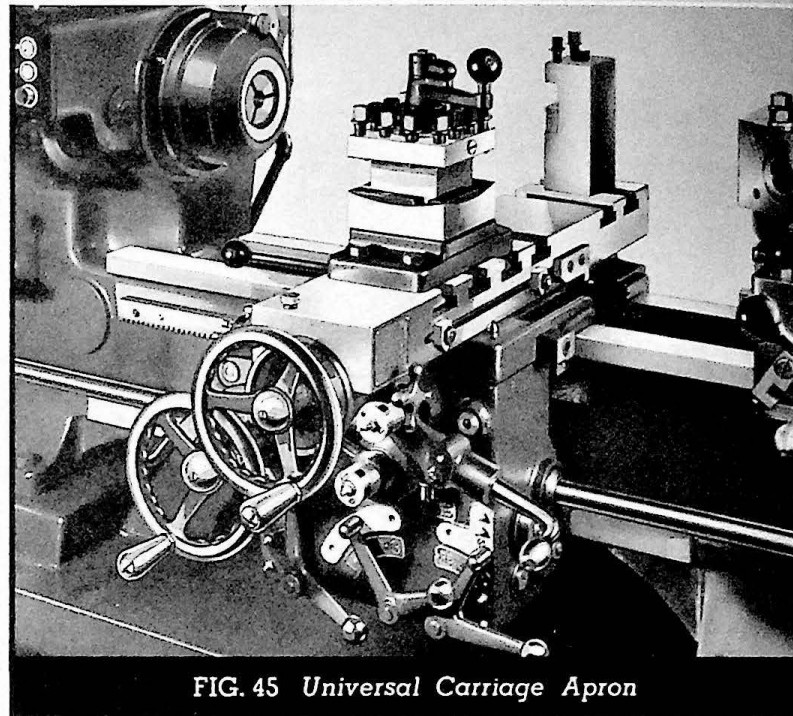

FIG. 45 Universal Carriage Apron
The action of the carriage apron is similar in principle to the hexagon turret apron, except that a second clutch (6), Figs. 45 and 46, is incorporated for cross feeding, clutch (4) being for longitudinal travel.
4. Cross feed clutch shaft (6) Figs. 45 and 46, can now be pushed out toward the rear while longitudinal feed clutch shaft (4) slides out to the front.
(3) Fig. 45
(3) Figs. 45 , 50 and 52